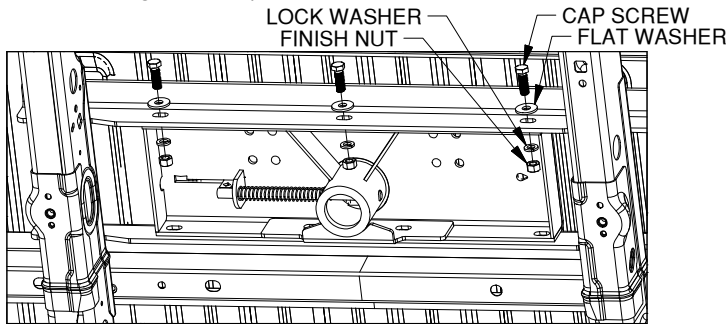
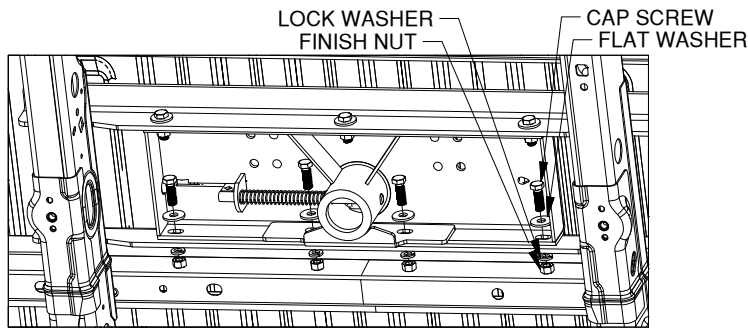

Figure B4: View under bed looking up at center section.
Figure B5: View under bed looking up at center section.
4. **Attach the cross members to the center.** Locate seven 1/2" X 1-1/2" cap screws, 1/2" flat washers, 1/2" lock washers, and 1/2" finish nuts. Slide the rear cross member forward until the flange with the holes is flat against the center section. Align the holes and attach hardware as shown in Figure B4. Slide the front cross member back until the flange with the holes is flat against the center section. Align the holes and attach hardware as shown in Figure B5. Do not fully tighten hardware at this time. (Hardware should be hand tightened.)